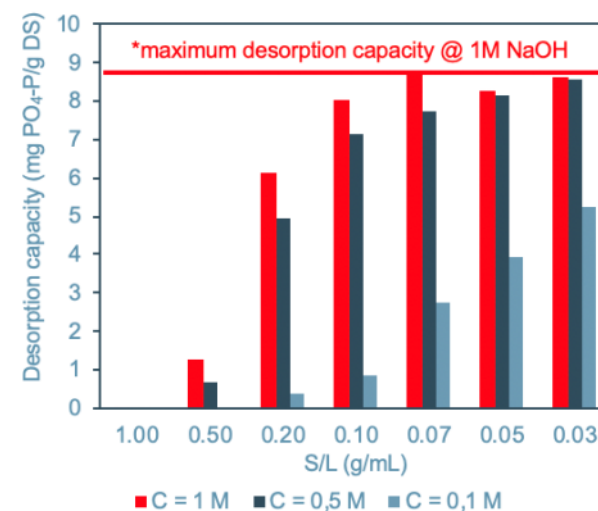

Figure 2: Influence of solid/liquid ratio.
- Figure 2:** The solid over liquid ratio (S/L expressed in g/mL) has a pronounced effect on desorption efficiency. An S/L lower than 0.10 g/mL is recommended.